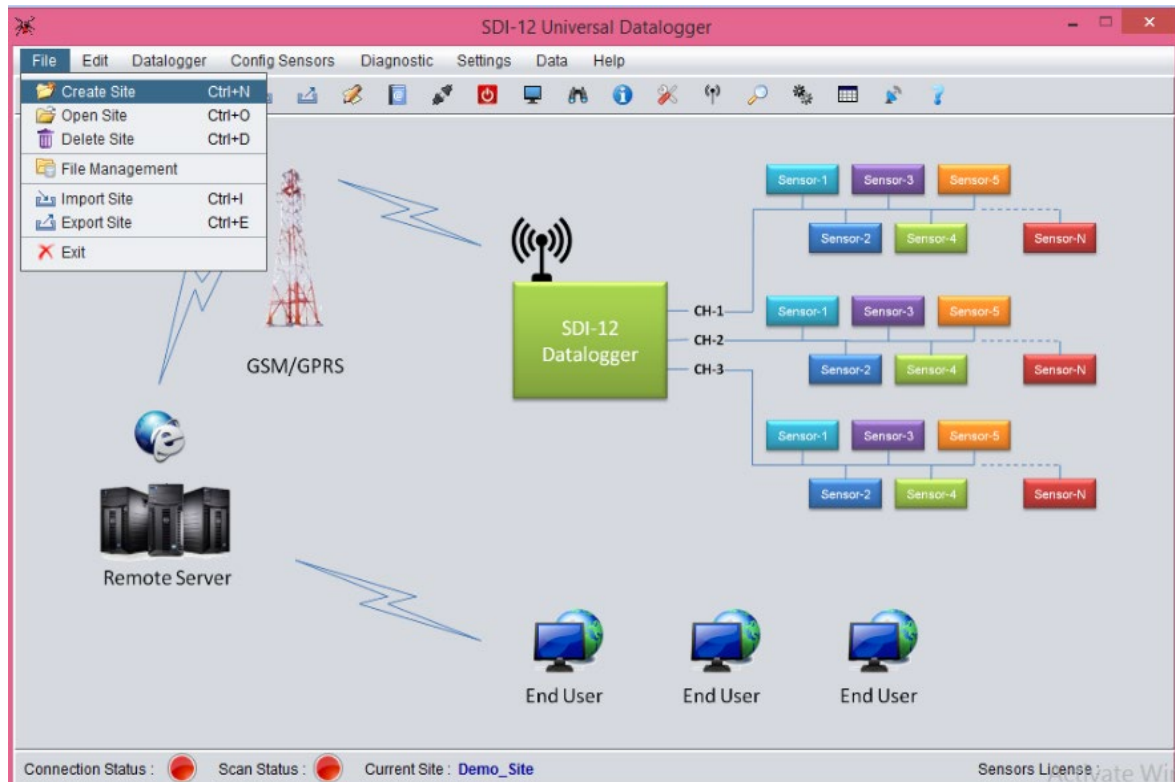

Figure 7-1 Home screen of EDSL-30UNI Configuration Manager Software
- 1 Double click the  SDI-12 Universal datalogger software icon on the Desktop. Then click "File" followed by "Create Site" as shown in figure 7-1 below: